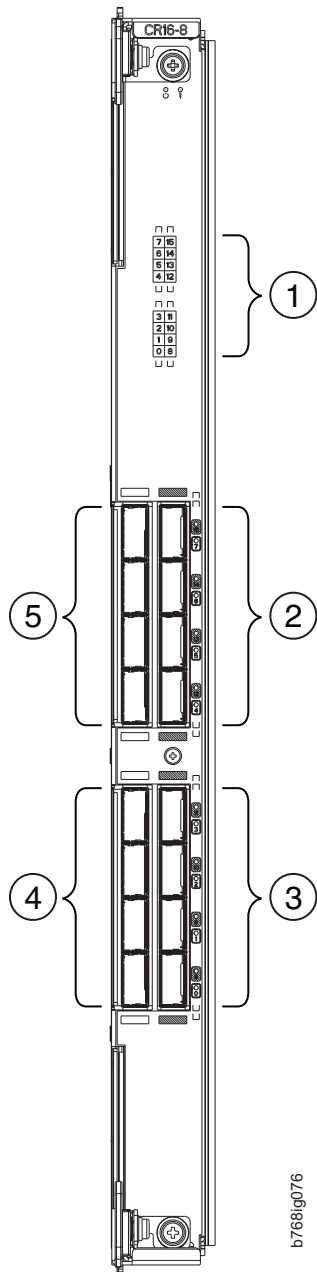

Figure 53. CR16-8 core blade
- Figure 53 on page 176 shows a CR16-8 core blade